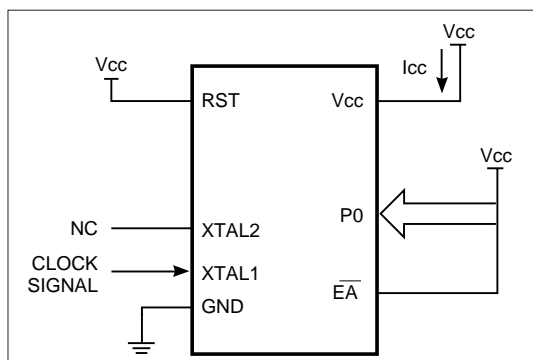

Figure 9. Active Mode
1. See Figures 9,10,11, and 12 for I_{cc} test conditions.